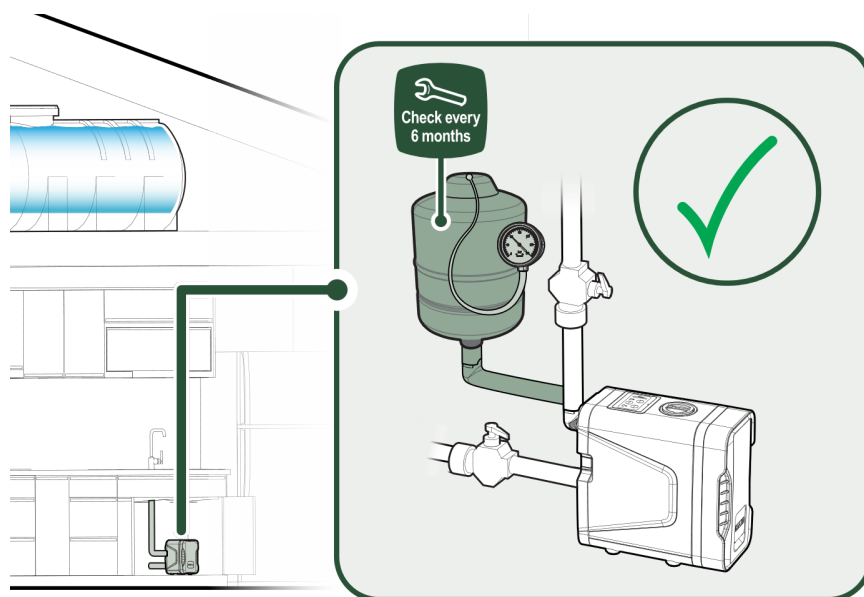

Fig. 21 Expansion tank
- remove the access cap from the motor shaft using a 6 mm Allen key (see **Fig. 21 Access to motor shaft**)